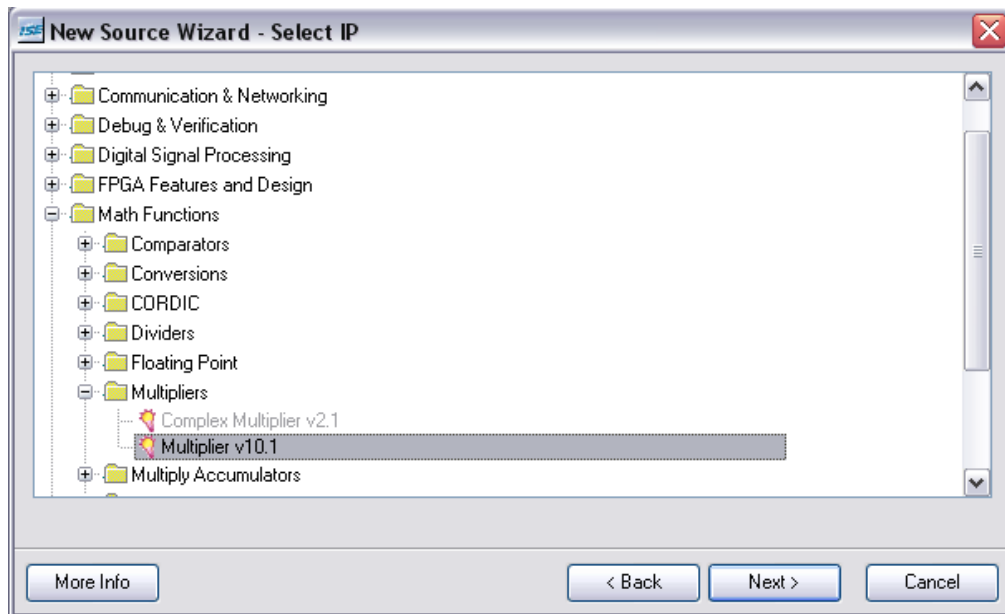

Fig. 1. New Source Wizard window
2. Finish creating your project, noting the folder it was created in, and proceed to double click on **Create New Source** in the Processes window. Choose **IP (Coregen & Architecture Wizard)** in the left menu, and name the file '**multi**'. In the next screen open the tree to Math Functions => Multipliers => Multiplier v10.1 as shown in figure 1. Click **Next** and **Finish**.